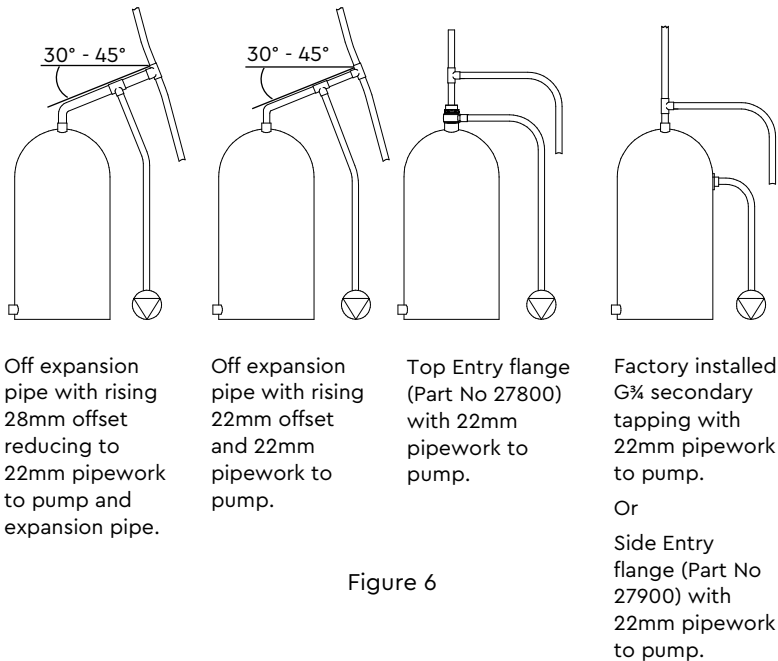

Figure 6
**Hot water supply:** The pump **must be** supplied with a **dedicated feed** direct from the hot water cylinder or storage tank, ensuring an air free connection to the pump. We recommend the use of either the side entry flange (SE) Part No 27900 or a top entry flange (TE) Part No 27800 see Figure 6.